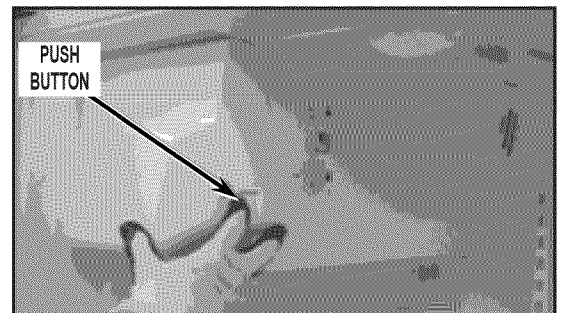

FIGURE 3
- Remove ice bin by depressing push button on side of ice bin cover. Pull ice bin upward and slide out of ice box compartment. See *Figure 3*.